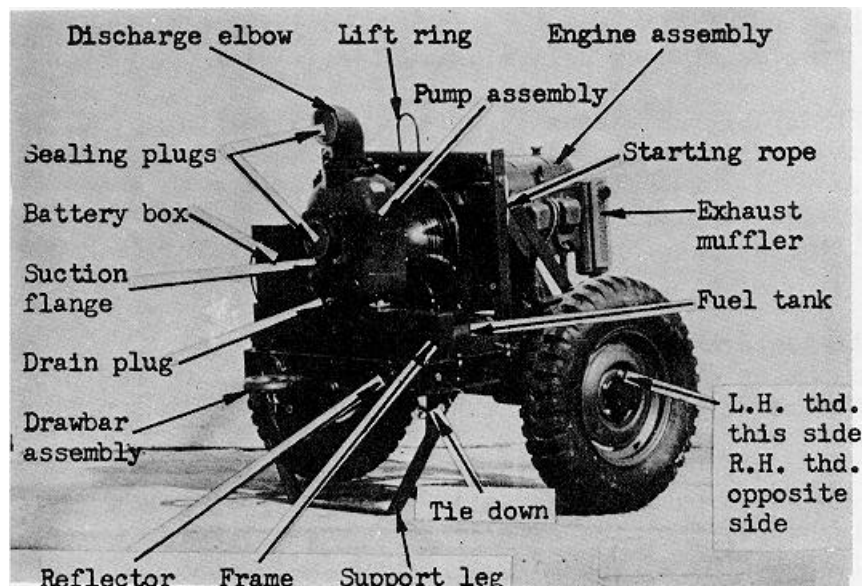

FIGURE 1-1. PUMPING, ASSEMBLY, LEFT REAR 3/4 VIEW
A. GENERAL - The SCHLEYER pumping assembly, Model No. 36M-SPS3011G-T (Fig. 1-1 and 1-2) is a self-contained, trailer mounted, self-priming unit. This pumping unit is for pumping water, with performances in the range as shown on the plate atop the battery box. The unit has 4" NPT inlet and 4" NPT outlet with a rated capacity of 600 GPM at 50 ft TDH. The unit is powered by a four-cylinder gasoline engine directly coupled to the pumping assembly. Instruments and controls necessary for operation of the unit are mounted on the control panel (Fig. 2-2).
C. PUMP ASSEMBLY - The pump assembly (Fig. 1-1) is a four inch conventional type self-priming centrifugal pump designed to deliver 600 GPM at 50 ft. TDH.
D. TRAILER - The trailer (Fig. 1-1) is constructed of welded steel members and is equipped with two wheels with pneumatic tires and an axle for towing at speeds up to 30 MLPH on surfaced roads. A collapsible support leg (fig. 1-1) is provided at rear of the trailer to support the unit during operation. The trailer is equipped with a removable drawbar for towing.
Refer to Fig. 1-1 and 1-2. Studying these photographs will familiarize you with the unit as it is intended to be when completely assembled. Discharge elbow—Plastic sealing plugs are used in the suction and discharge ports for shipping purposes. The plugs may be saved for future use in transport or storage of the unit. Remove the plastic sealing plug from the discharge port. The discharge elbow is attached to the intermediate housing with a strand of wire; cut the wire. remove the elbow and install it at the discharge port. Use a pipe sealing compound or waterproof grease, turn clockwise, and tighten securely. Lift Ring—Remove the lift ring from the lifting bail and install in the crosspiece.